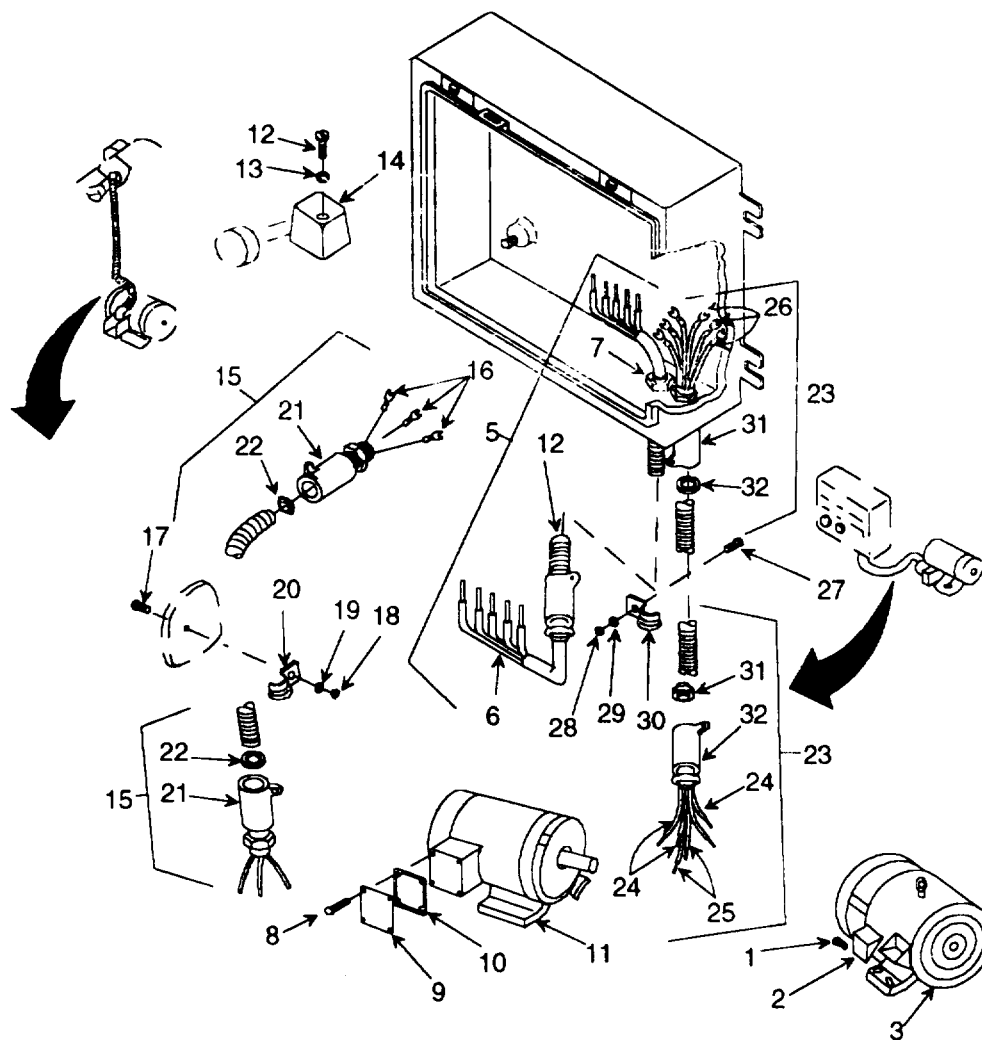

Figure 5-18 Cable Assembly (Alternating Current), Removal / Installation.
a. **Removal.** (Refer to figure 5-18.)
- (1) Remove two machine screws (1) and electrical connector box cover (2) from alternator (3).
- (2) Open control panel assembly and gain access to rear of the control panel assembly (4).
- (3) Tag and disconnect alternator to control panel AC electrical cable assembly (5) leads (6) from alternator (3) and control panel assembly (4).
- (4) Remove two fittings (7) and alternator to control panel AC electrical cable assembly (5).
- (5) Remove four screws (8), cover (9), and gasket (10) from air compressor motor (11).
- (6) Remove screw (12), lockwasher (13), and cover (14) from air pressure switch.
- (7) Tag and disconnect air pressure switch to air compressor motor AC electrical cable assembly (15) terminal lugs (16) from air pressure switch and air compressor motor (11).
- (8) Remove two machine screws (17), two hexagon nuts (18), two flat washers (19), and two retaining straps (20).
- (9) Remove two electrical box connectors (21), two electrical bushings (22), and air pressure switch to air compressor motor AC electrical cable assembly (15).
- (10) Tag and disconnect air compressor motor to control panel AC electrical cable assembly (23) leads (24 and 25) and terminal lugs (26).
**e. Installation.** (Refer to figure 5-18.)
- (1) Carefully install air compressor motor to control panel AC electrical cable assembly (23). Secure with cable assembly with two electrical bushings (32) and two electrical box connectors (31).
- (2) Secure AC electrical cable assembly (23) to body with two machine screws (27), two retaining straps (30), two flat washers (29), and two hexagon nuts (28).
- (3) Connect AC electrical cable assembly (23) leads (24 and 25) and terminal lugs (26) to control panel (4) and air compressor motor (11). Remove and discard tags.
- (4) Carefully install air pressure switch to air compressor motor AC electrical cable assembly (15). Secure with two electrical bushings (22) and two electrical box connectors (21).
- (5) Secure AC electrical cable assembly (15) to body with two machine screws (17), two retaining straps (20), two flat washers (19), and two hexagon nuts (18).
- (6) Connect AC electrical cable assembly (15), leads and terminal lugs (16) to air pressure switch and air compressor motor (11). Remove and discard tags.
- (7) Install cover (14) onto air pressure switch and secure with lockwasher (13) and screw (12).
- (8) Install cover (9) and gasket (10) onto air compressor motor (11) and secure with four screws (8).
- (9) carefully install alternator to control panel AC electrical cable assembly (5) and secure with two fittings (7).
- (10) Connect AC electrical cable assembly (5) leads (6) to alternator (3) and control panel assembly (4). Remove and discard tags.